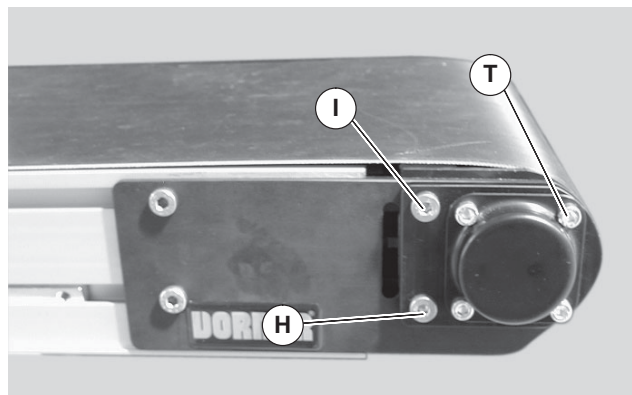
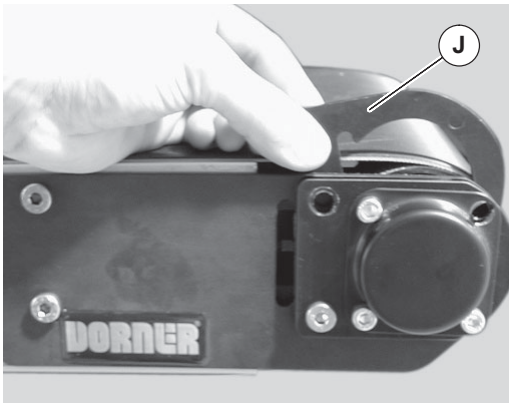

Figure 24
Figure 25
- 7. Loosen screw (Figure 24, item H) on both sides of conveyor.
- Remove screw (Figure 24, item I) and screw (T). Remove existing spacer plates (Figure 25, item J) on both sides of conveyor.